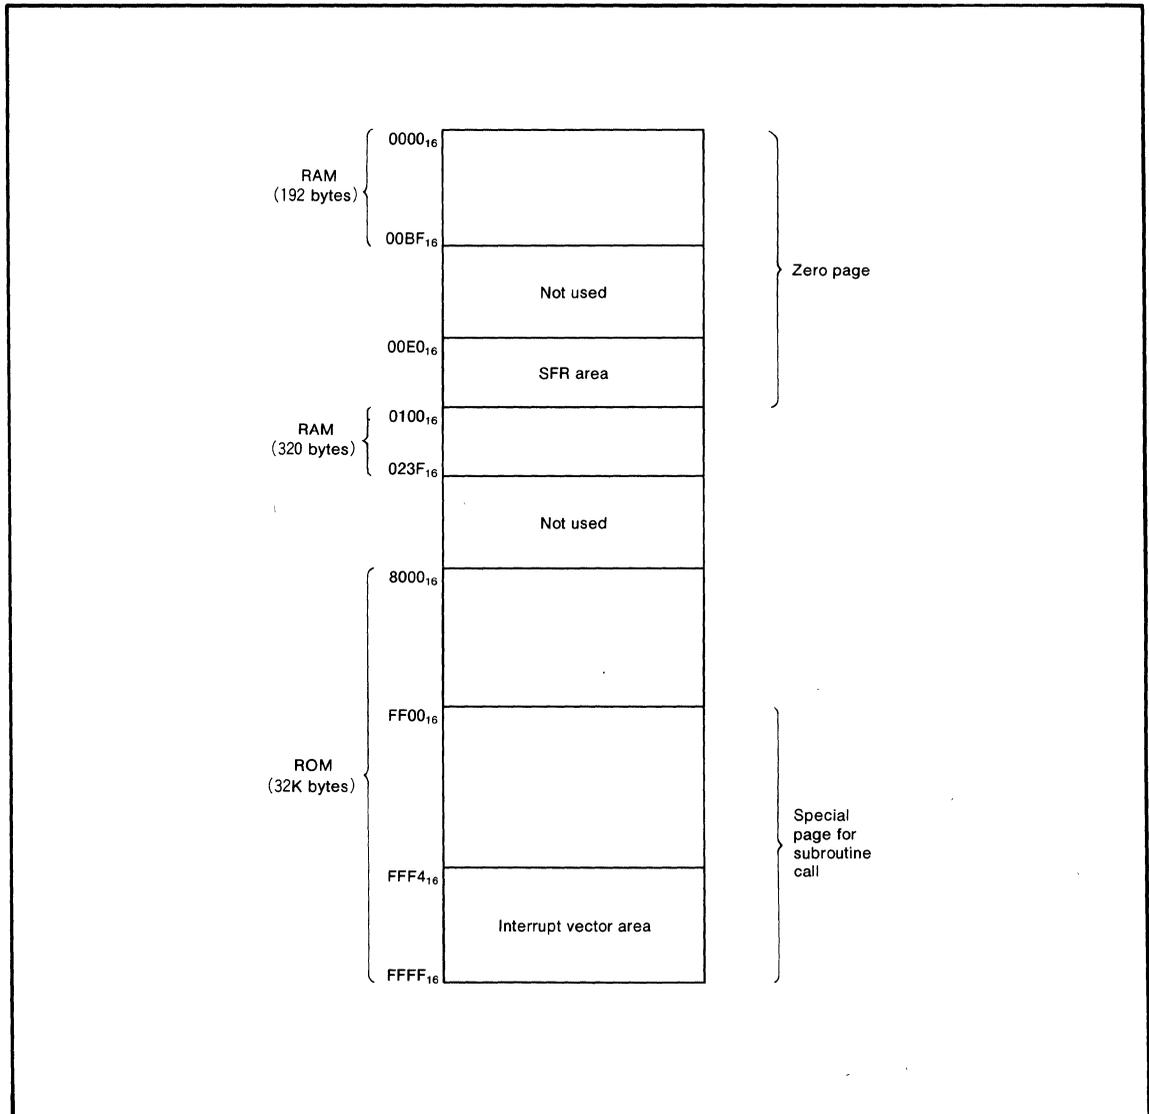

Fig.1 Memory map
(1) In case of the M5L27128K or the M5L27256K EPROM use the following areas (refer to Figure 1):